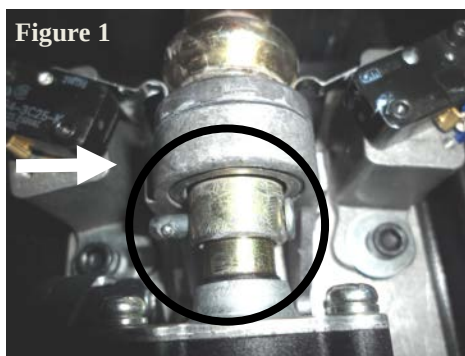

Figure 1
- 3) Remove clevis pin from end of drive screw (Figure 1).